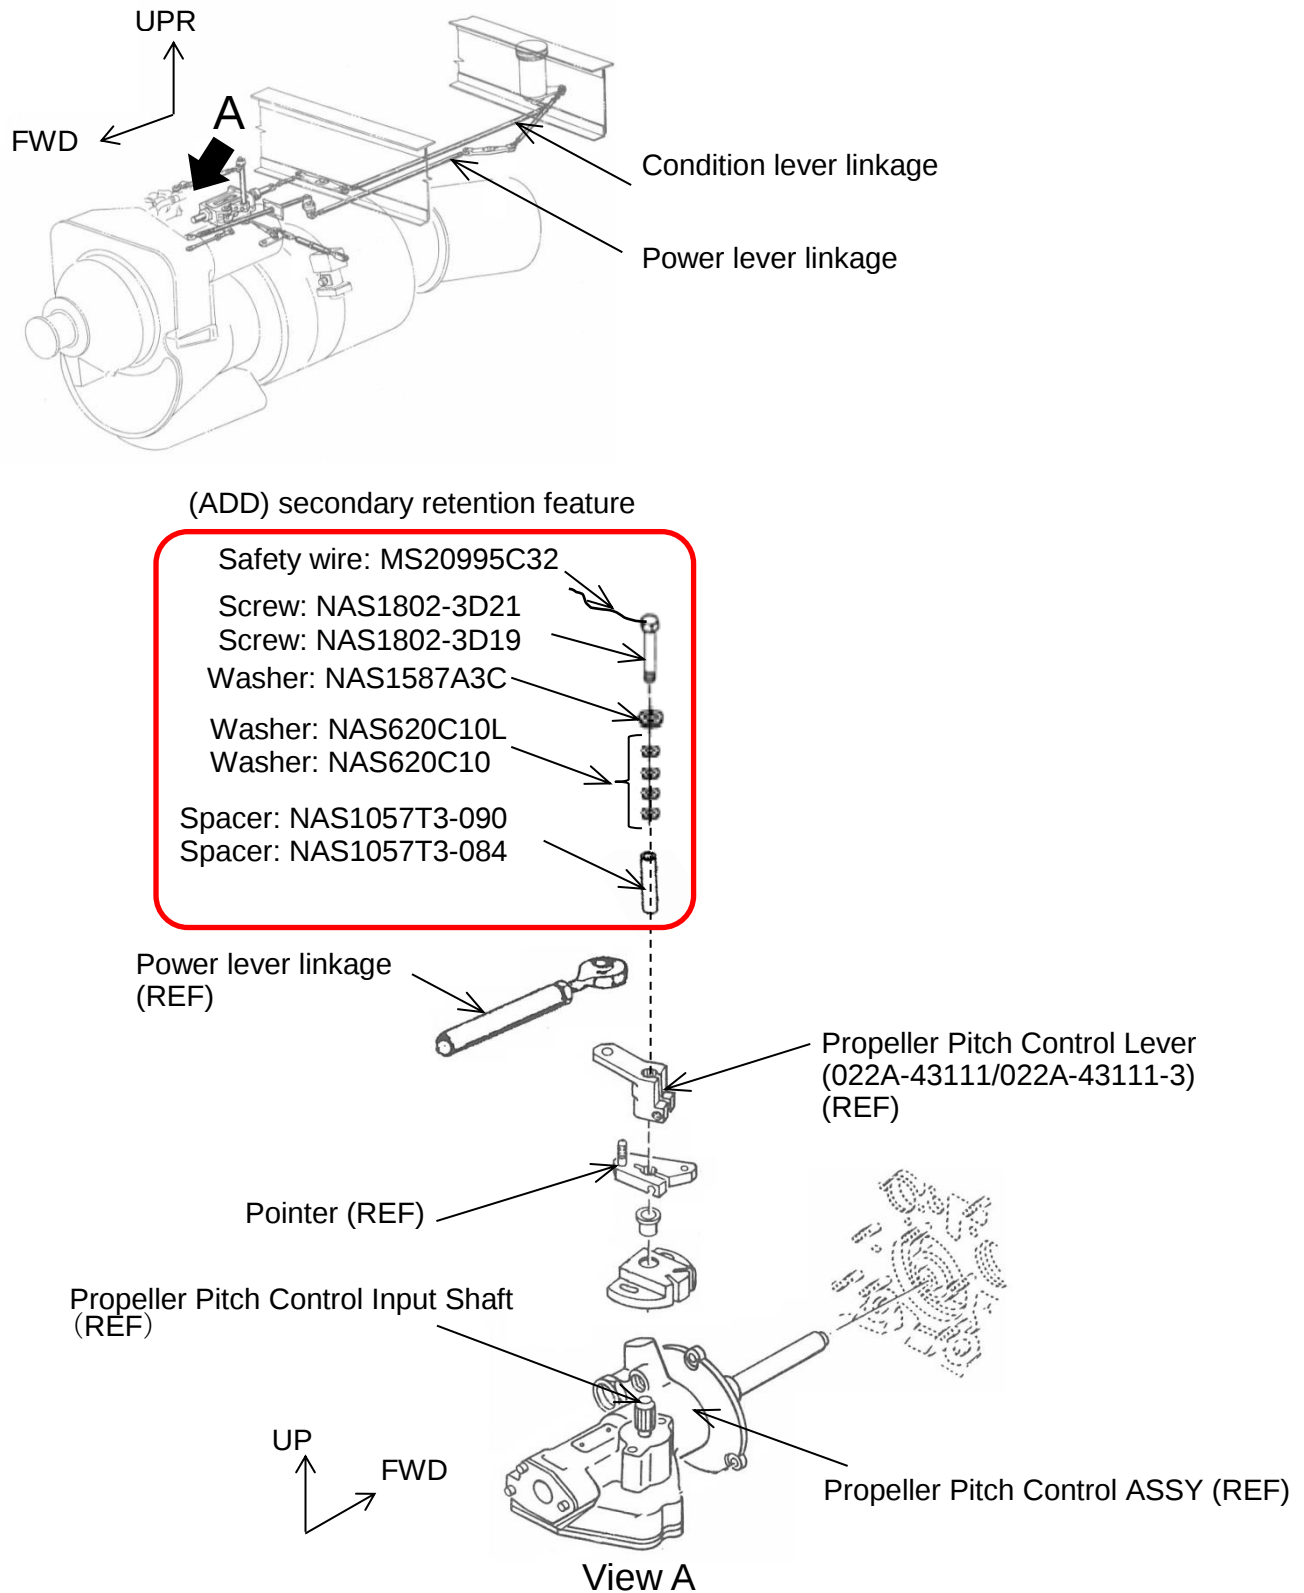

Figure 1 Installation of Secondary Retention Feature
- (1) Remove the existing safety wire (MS20995C32) between the Lever (022A-43111/022A-43111-3) and the clamping bolt (MS20073-03-05).
- (2) Re-torque the clamping bolt (MS20073-03-05) to 20 to 25 lbs.
- (3) Install screw (NAS1802-3D21/NAS1802-3D19), counter washer (NAS1587A3C), gap adjustment washers (NAS620C10 and NAS620C10L), and spacer (NAS1057T3-090/NAS1057T3-084) to the threaded end of PPC shaft. (Ref to Figure. 1)